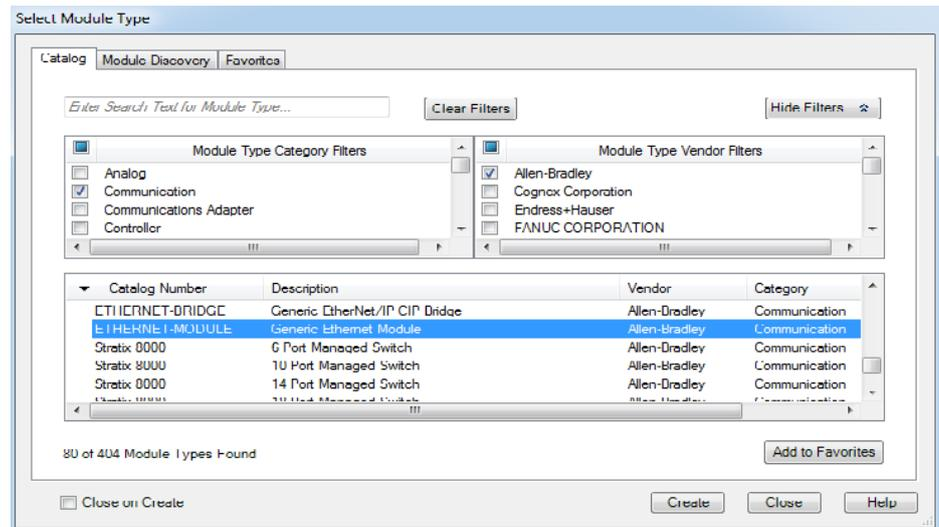

Figure 56: 'Generic Ethernet Module' selected in list
2. In the **Select Module Type** window, double-click the 'Generic Ethernet Module' in the list of catalogs (see figure 56).